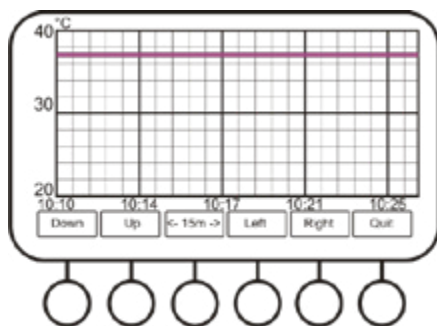

Fig. 13. Temperature plot
4.9.5.1 All **View Plot** options use following interface. Figure 13 shows the temperature plot in relation to time.